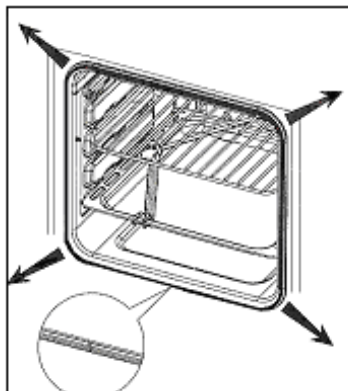

Figure 12
2. Remove the old sealing by pulling out the seal from corners one by one as shown in **(See Figure 12)**,